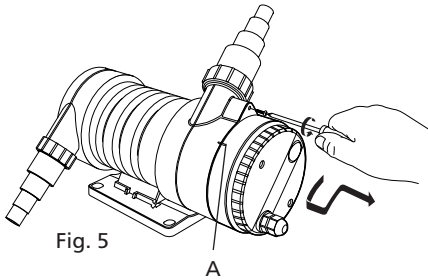

Fig. 5
- i) Remove the screw securing the electrical head (See fig 5). Turn the head anti-clockwise, pull out and then turn clockwise. The head should then pull gently away from the main body.
v) Re-assemble the head to the body. Using the alignment marks 'A' (see fig 5), press together while rotating anticlockwise allowing to slot together, then rotating clockwise. The screw boss should realign, allowing the retention screw to be re-fitted.